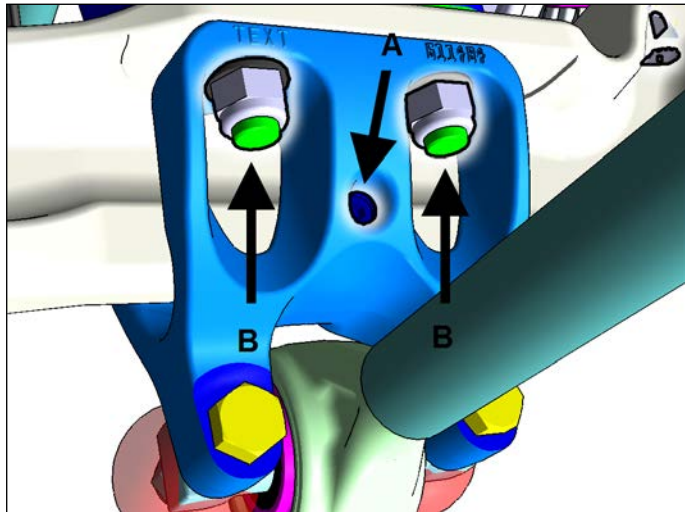

Figure 4
7. If there is no contact, remove the set screw in the middle of the support. (A, fig. 4)
1. Using appropriate protection equipment, clean the end of the screw threads with solvent and brush to remove the protective coating. (B, fig. 4)
2. Loosen by approximately one turn the bracket bolts (4x) (B, fig. 4)
3. Remove the set screw at the center behind the support. (A, fig. 4)